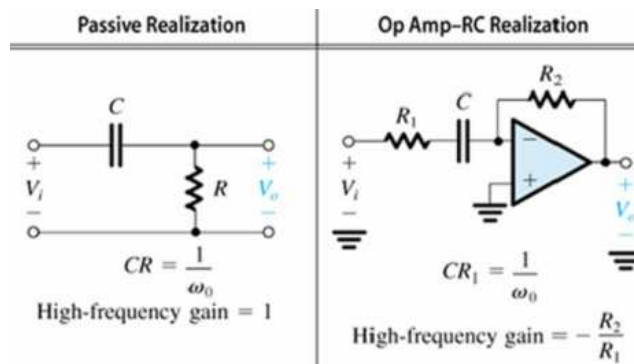

Figure 3.2: First-order high pass filters.
7. Switch the potentiometer with the capacitor, thus obtaining the passive high-pass filter from figure 3.2. Vary the resistance of the potentiometer to eliminate the low frequency oscillation, without altering the high frequency oscillation. Sketch what you see.
8. Repeat for the high-pass filter what you did in item 6 above.